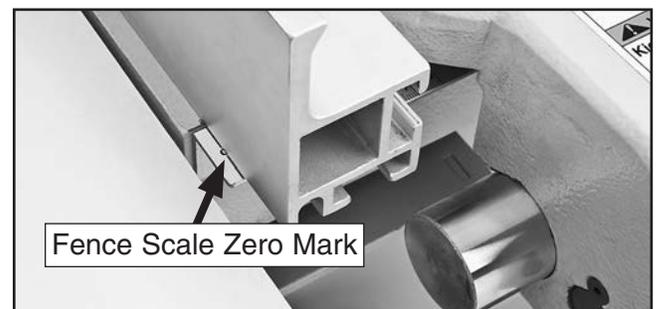

Figure 149. Rip fence scale zero mark.
3. Observe the reading on the scale underneath the rip fence (see **Figure 149**).